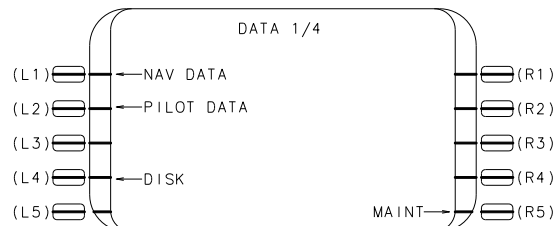

FIGURE 2
3. PRESS DATA KEY, THE DATA PAGE WILL APPEAR (REF FIGURE 2). PRESS THE MAINT LSK.
- THE DATA PAGE WILL APPEAR (REF FIGURE 2). PRESS MAINT LSK.